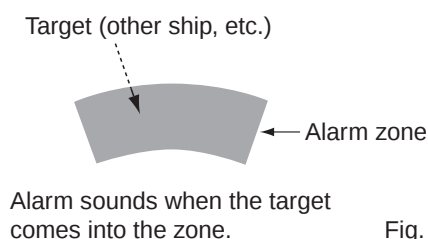

Fig. 3
- ① Push [MENU] / [菜单] one or more times to open the FUNCTION menu.
- ② Hold down [▼] until the "ZONE ALARM" section becomes highlighted.
- ③ Push [◀] [▶] to select IN or OUT
- IN : Alarm sounds when the target comes into the zone. (see Fig. 3)